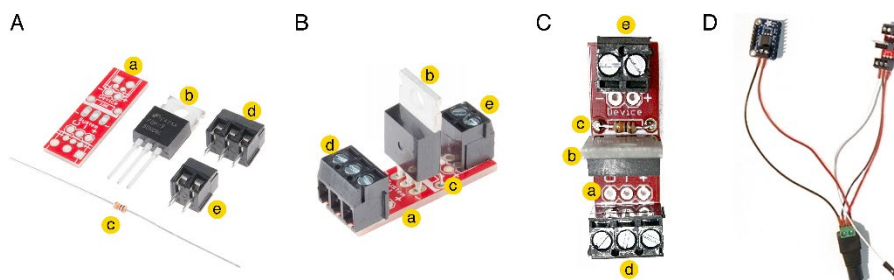

Figure 5. Assembling the SparkFun MOSFET power control kit
- Solder the resistor, transistor and both screw terminals to the SparkFun MOSFET power control kit board (Fig. 5).
- Trim the ends of **b** and **c** after the soldering is complete (Fig. 5).